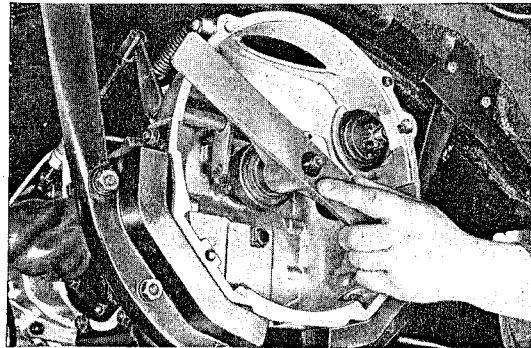

Fig. 275
3. Adjust the clutch release bearing 50 mm ($1\frac{31}{32}$ in.) back from face the clutch housing using tool P 35a. Adjustment is made by shortening or lengthening the clutch cable clevis (Fig. 275). Do not tighten the cable clevis past the end of the threads where it will bind with the lever. Secure the clevis by tightening the lock nut, inserting the clevis pin locking it with the spring clip.